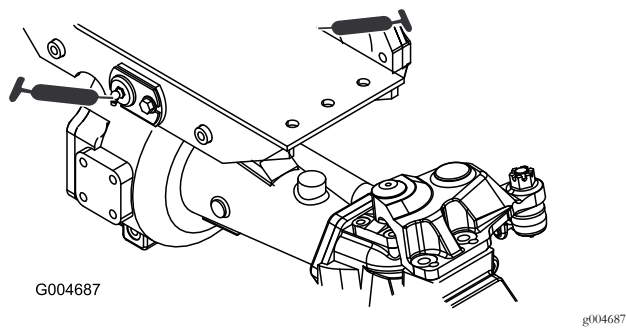

Figure 34
- Front- and rear-axle pivot bushings (2) (Figure 34)